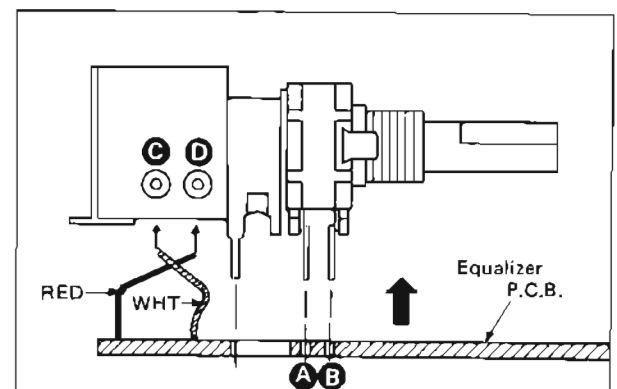

Fig. 7
9. Unsolder of volume motor (Fig. 7: ④A ~ ④D).
10. Remove the volume motor in the direction of the arrow in Fig. 7.